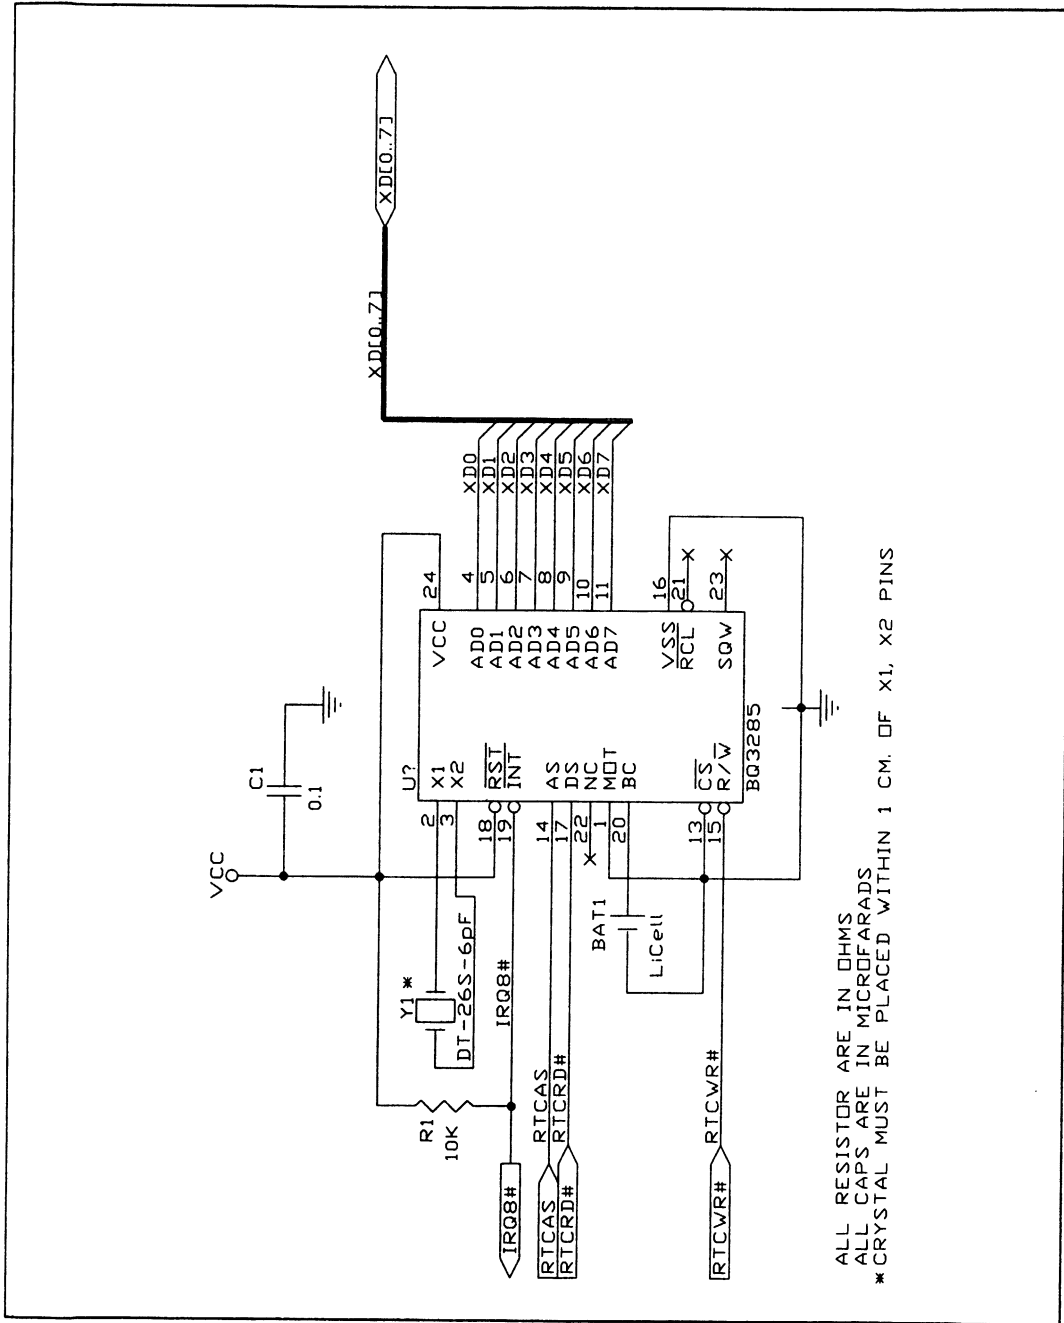

Figure 2. bq3285 ISA (PC/AT) Example
- Equivalent **bq3285** design (Figure 2, Table 4)
**Table 4. bq3285 ISA (PC/AT) Parts List (Figures 2 and 3)**